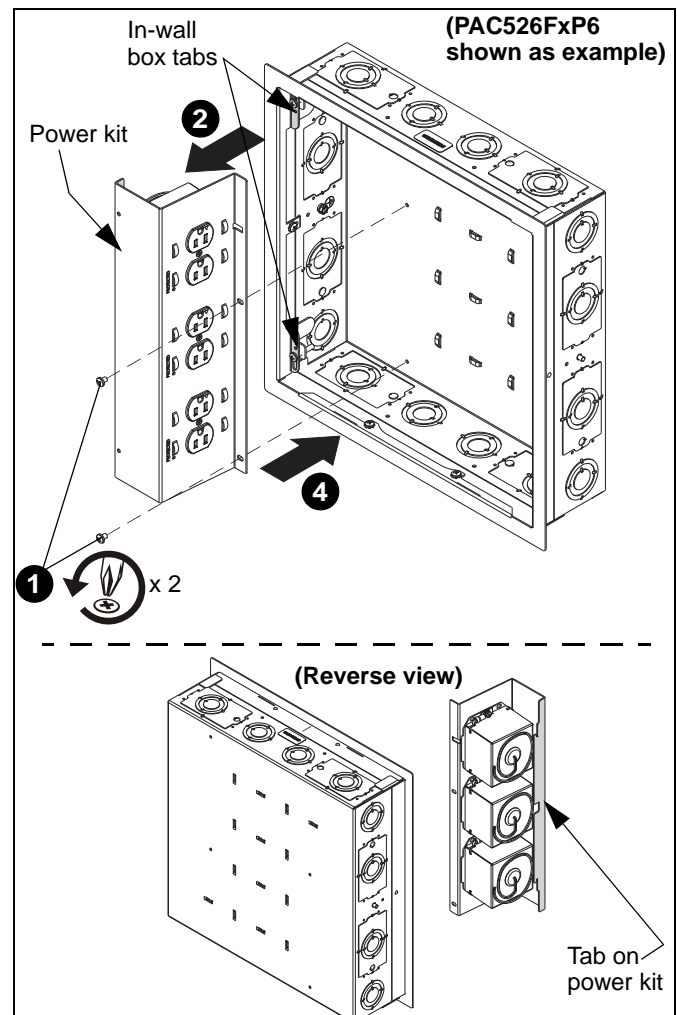
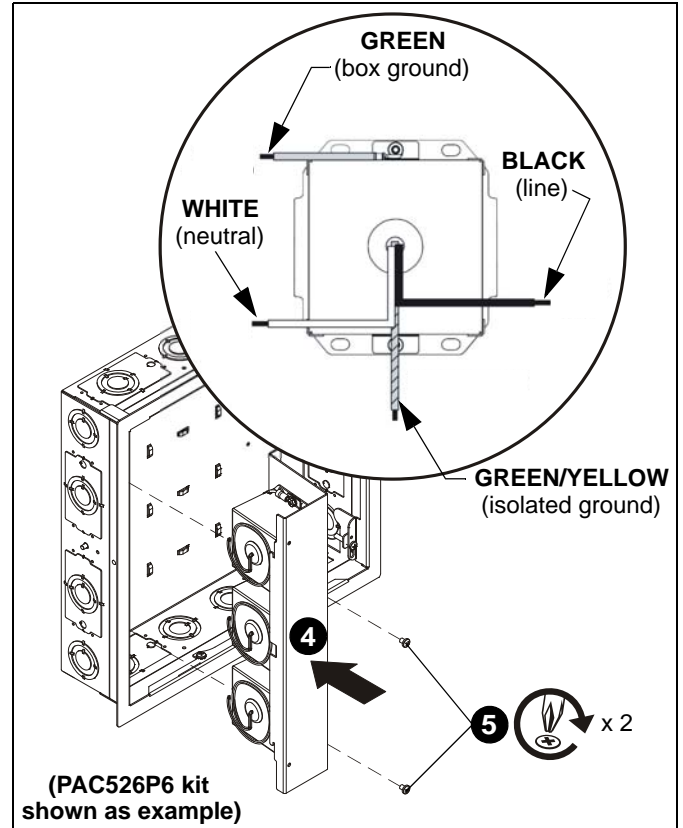

Figure 1
Figure 2
1. Remove and save two Phillips head screws holding power kit within box. (See Figure 1)
2. Remove the power kit from the in-wall box, detaching the tab on the power kit from the tabs in the in-wall box. (See Figure 1)
- Wire the outlet box(es) as required. Refer to Table 1 and Table 2 for input and output specifications. (See Figure 2)
- Replace the power kit into the in-wall box, joining the tab on the power kit with the tabs in the in-wall box. (See Figure 1) and (See Figure 2)
- Tighten two Phillips screws to secure power kit in the in-wall box. (See Figure 2)